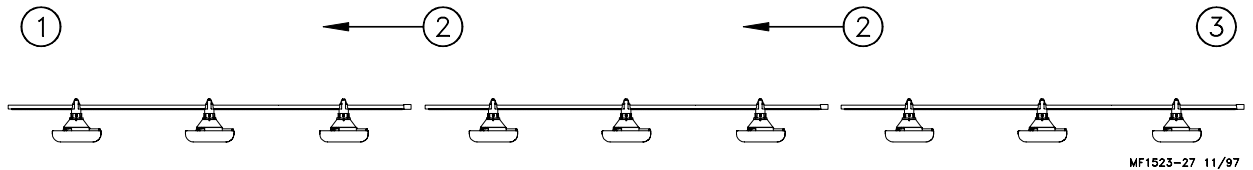

Figure 31. Assemble Feeders on Tubes (Side View)
1. The auger tubes and feeders may be laid out end to end in approximately the final location of the line. **The expanded end of each tube should be toward the Hopper end of the line.** See Figure 31.